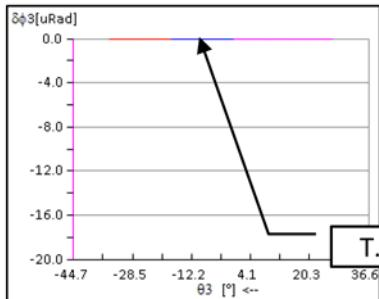
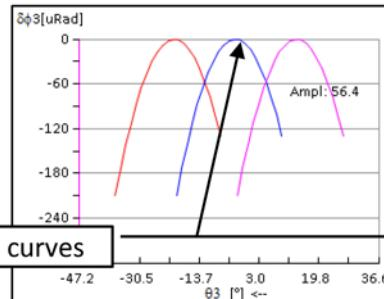
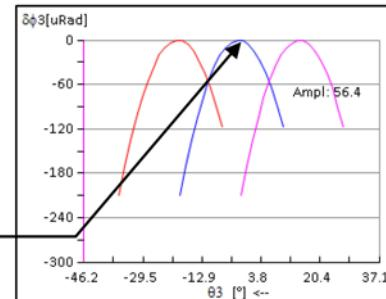

Figure 7 TE–basic gear set.
Figure 8 With modified roll.
Figure 9 0.2 mm C.D. change.
By definition, spurred gears are fully conjugate at mid-face. This means that in the absence of modifications to the profiles of the cutter blades, TE will be null. This is shown (Fig. 7), where three TE curves (blue, red and pink lines) are shown on the 0.0 line.
TE is desired in gear sets in order 1) to provide smooth motion transfer between meshing tooth pairs when subject to positional errors, and 2) to avoid excessive stresses at contact entry and exit. TE can be introduced in a number of ways. For example: 1) using blade deviations such as TopRem; 2) using circular cutter edges, or 3) using higher order changes, such as modified roll Eq. (7), on a CNC-controlled machine. The latter is the preferred method, as standard cutters can be used. Figure 8 shows the TE for the same gear set as that in Figure 7, but 2nd-order modified roll has been applied to provide relief at contact entry and exit.
Insensitivity to center distance change is a prime characteristic of spur gears. Spurved gears behave similarly, since they are fully conjugate in the mid-face section of the tooth where the PoC is centered. In Figure 9, the center distance of the gear set of Figure 8 was increased from 37.86 mm to 38.06 mm—thus a 0.2 mm increase for a tooth whole depth of 2.5 mm and yet, no change in the TE can be noticed.